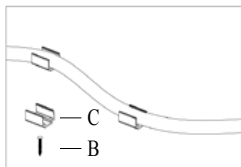

Figure 1
- Fix mounting clips with nails or screws onto support surfaces. (Figure 1. 2. 3 depends on the intended mounting means of this product, refer to the Accessories Part.)